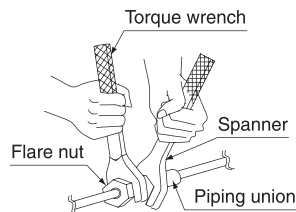

Fig. 2
- (1) Connect the piping.
- When connecting or disconnecting piping to or from the unit, **be sure to use two spanners and two torque wrenches. (Refer to Fig. 2)**